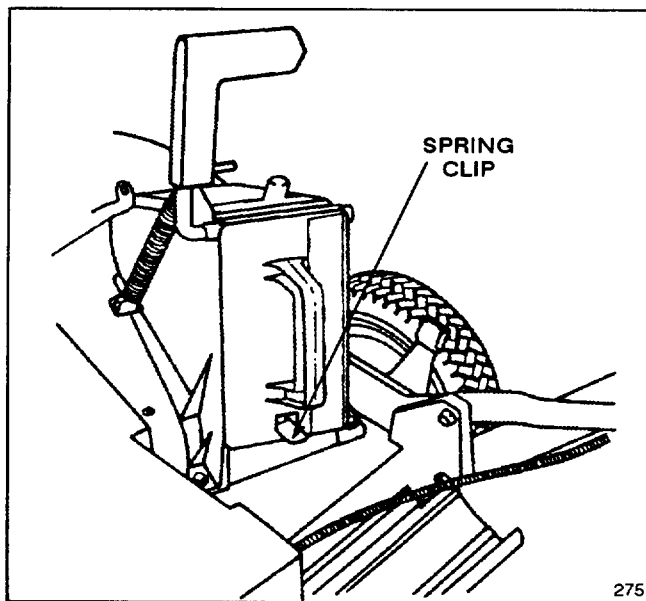

Figure 14
3. Push the plug all the way in until the spring clip on the bottom of the plug clicks into place, locking the plug securely into the discharge tunnel (Fig. 14). Release the discharge door handle to lock the top of the plug.